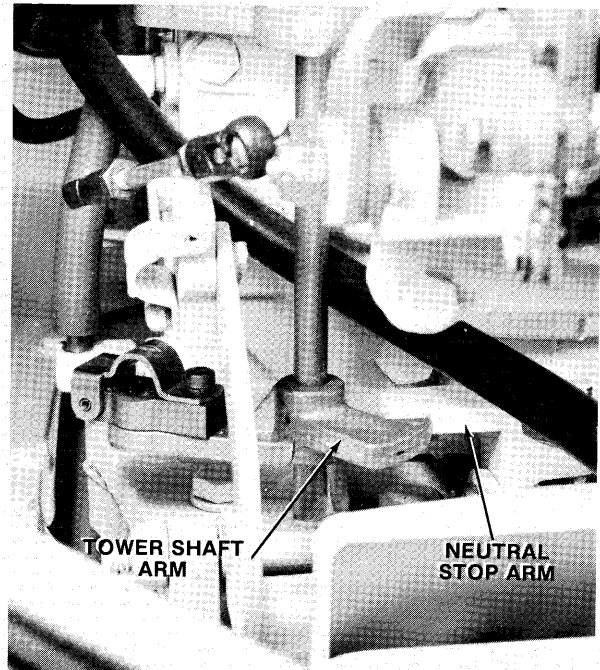

Figure 10—Towershaft Positioned Against Neutral Stop Arm
B. Advance towershaft to neutral stop arm as shown in figure 10.
- B. Advance towershaft to neutral stop as shown in figure 10.